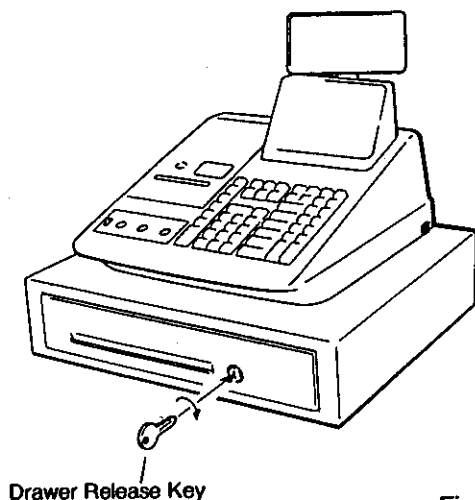

Fig. 1
2. Open the Paper Cover. (Fig. 1)
1. Insert the Drawer Release Key into the Drawer Release Lock and turn the key clockwise. The drawer will now open. (Fig. 1)